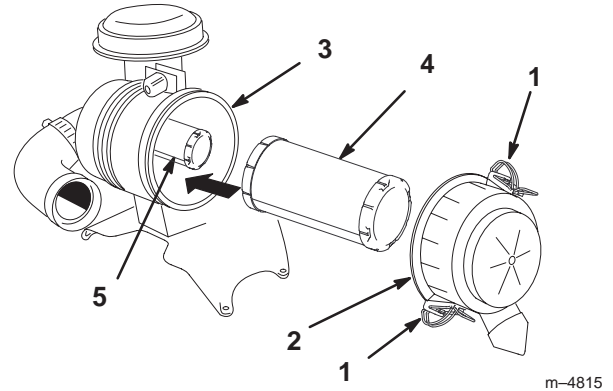

Figure 32
2. Release the latches on the air cleaner and pull the air cleaner cover off of the air cleaner body (Fig. 32).
4. Gently slide the primary filter out of the air cleaner body (Fig. 32). Avoid knocking the filter into the side of the body.
2. If the safety filter is being replaced, carefully slide it into the filter body (Fig. 32).
3. Carefully slide the primary filter over the safety filter (Fig. 32). Ensure that it is fully seated by pushing on the outer rim of the filter while installing it.
4. Install the air cleaner cover with the side indicated as UP facing up and secure the latches (Fig. 32).